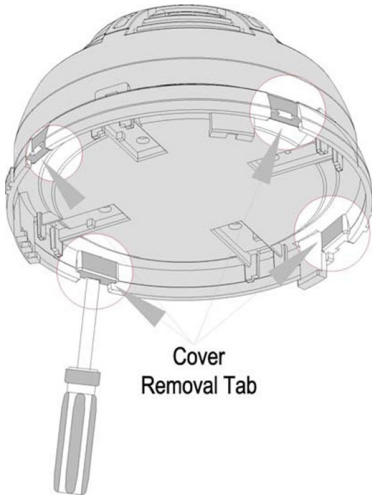

Figure 11
1. Remove the detector cover by snooping away the four sides tabs using a flat screwdriver and then pulling the cover from the base. (Figure 11).